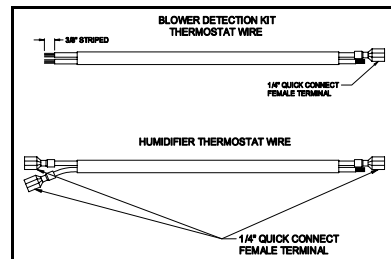

Figure 6
9. Strip approximately 3/8" of insulation from each of the four conductors on the new thermostat wire. Attach one of the 1/4" female terminals to one conductor. Attach the other 1/4" female terminals to one of the bare ends of the original thermostat wire provided with the TM-90R/TM-2000. (See Figure 6)